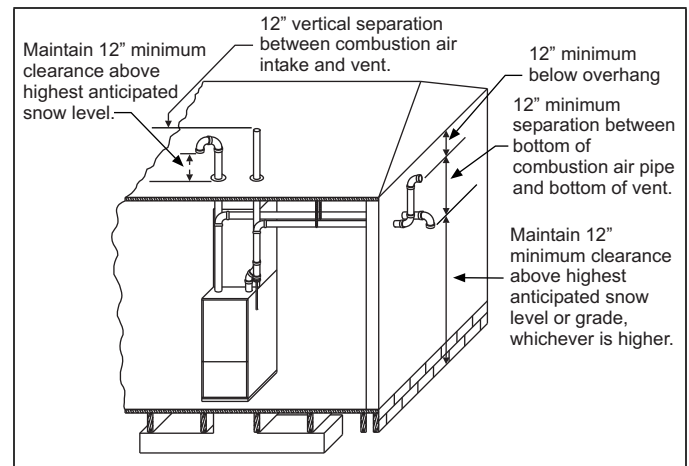

Figure 21: Termination Configuration - 2 Pipe
- Direct vent systems must be installed so the vent and the combustion air pipes terminate in the same atmospheric zone. See Figures 21 and 22.
- **OUTDOOR COMBUSTION AIR:** This is a direct vent configuration where the combustion air is supplied through a PVC or ABS pipe that is connected to the PVC coupling attached to the furnace and is terminated in the same atmospheric zone as the vent. This type of installation is approved on all models. See Figures 21 and 22.